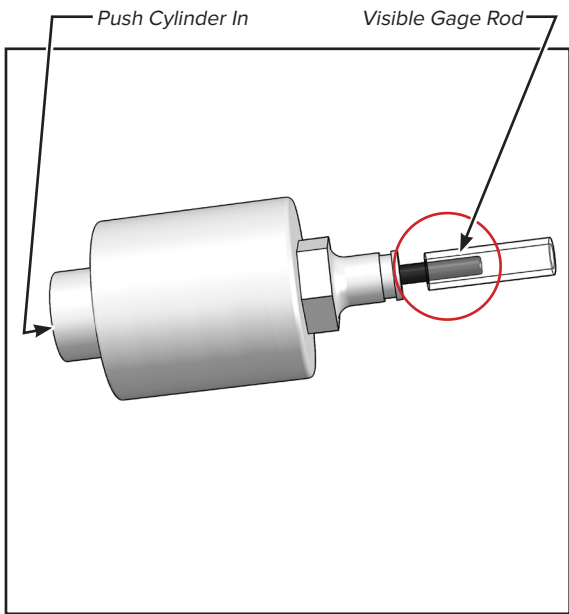

FIGURE 27
- 5. Manually push the cylinder back into the housing. The gauge rod should now be visible (figure 27).